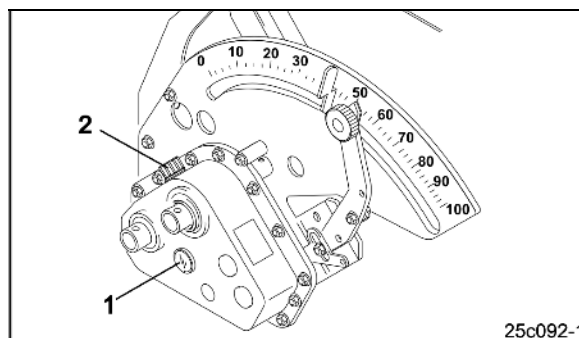

Fig. 137
1. Place a suitable container under the drain valve (Fig. 137/1) (capacity of at least 35 litres).
2. Release and remove the oil dipstick (1).
6. Loosen the 3 screws on the oil filter (1), replace the oil filter insert.